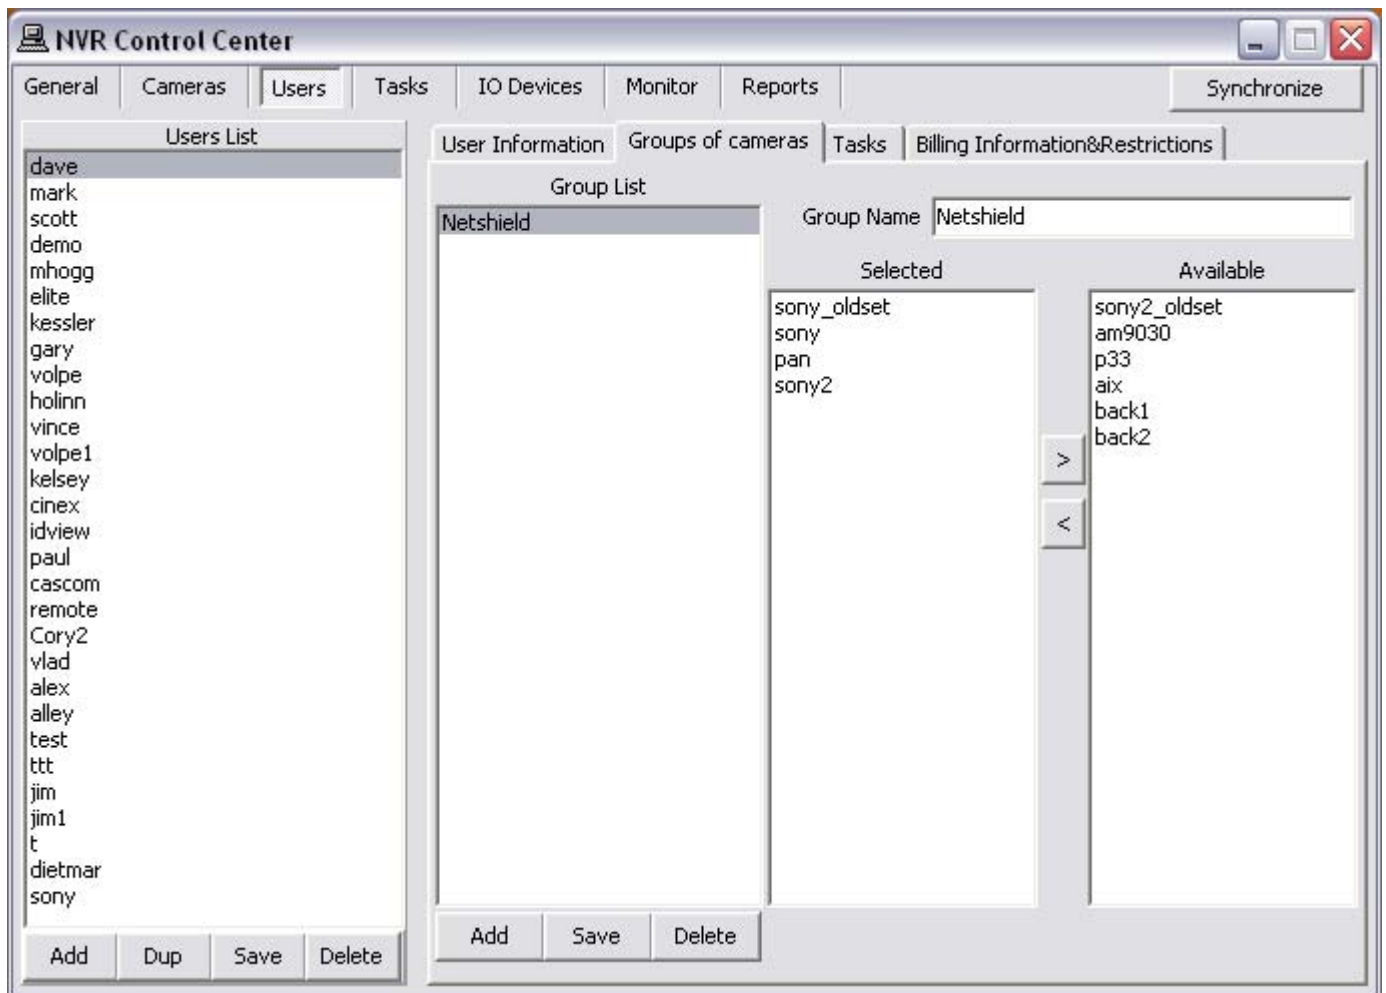

Fig 37. NVR Control Center — Users — Groups of Cameras
1. In the **NVR Control Center — Users** select a user from the **Users List** and switch to the **Groups of Cameras** (Fig 37).